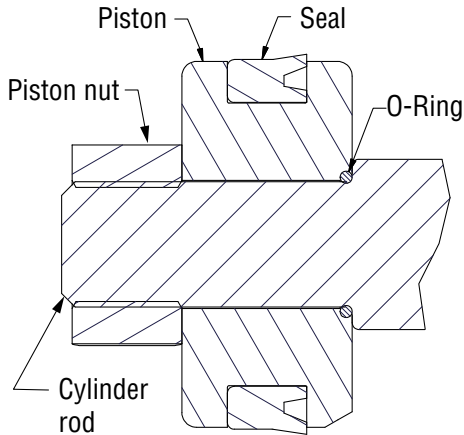

Figure 4-6, Piston Seal
2. Note the direction of the seal on the piston. Improper installation will result in poor performance. The cupped side or O-ring side of the seal should be facing the gland cap. (Figure 4-6)